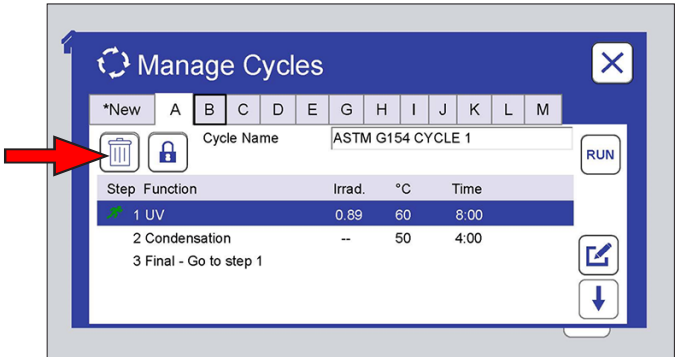

Figure 11.6.2a: Touch the delete icon to delete the selected cycle.
- o Delete a cycle (Figure 11.6.2a).